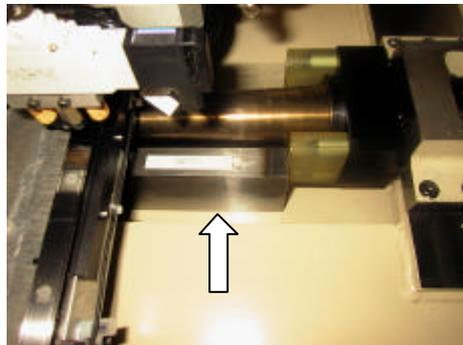

Figure 2
3. Place the 155mm spacing jig (Fig.2) between the X-axis + mechanical stopper and the X-axis table. Tighten the coupling bolt with a 7N.m torque wrench.